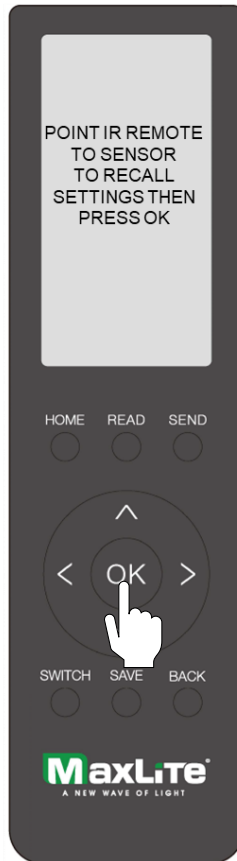

Fig 3B
2. The screen will prompt you to point the RF-REMOTE at a sensor to recall settings and press **OK** (Fig 3B).